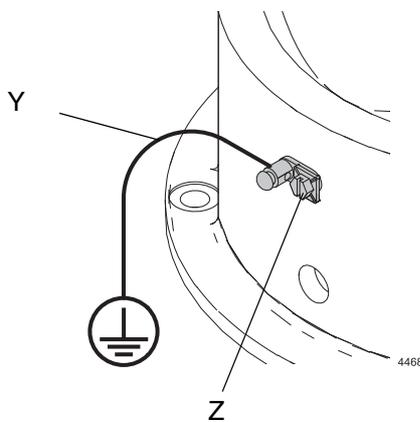

FIG. 1
- **Pump:** Use a ground wire and clamp as shown in Fig. 1. Remove the ground screw (Z) and insert through the eye of the ring terminal at the end of the ground wire (Y). Fasten the ground screw onto the pump and tighten securely. Connect the other end of the wire to a true earth ground. To order a ground wire and clamp, order part number 222011.